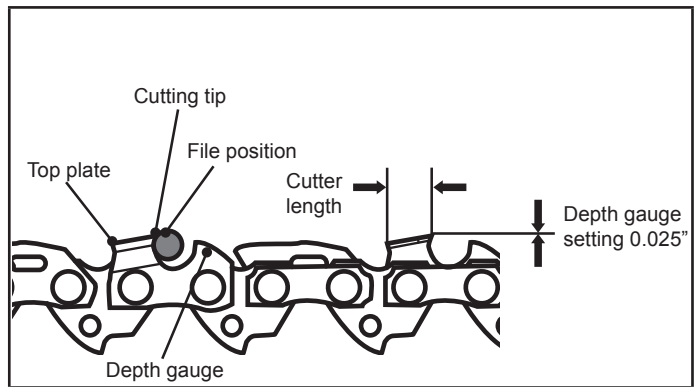

Fig. 42
- Use a depth gauge measuring instrument to check the height of the depth gauge. Depth gauge measuring jigs are available from most reputable tool merchants (Fig. 42).